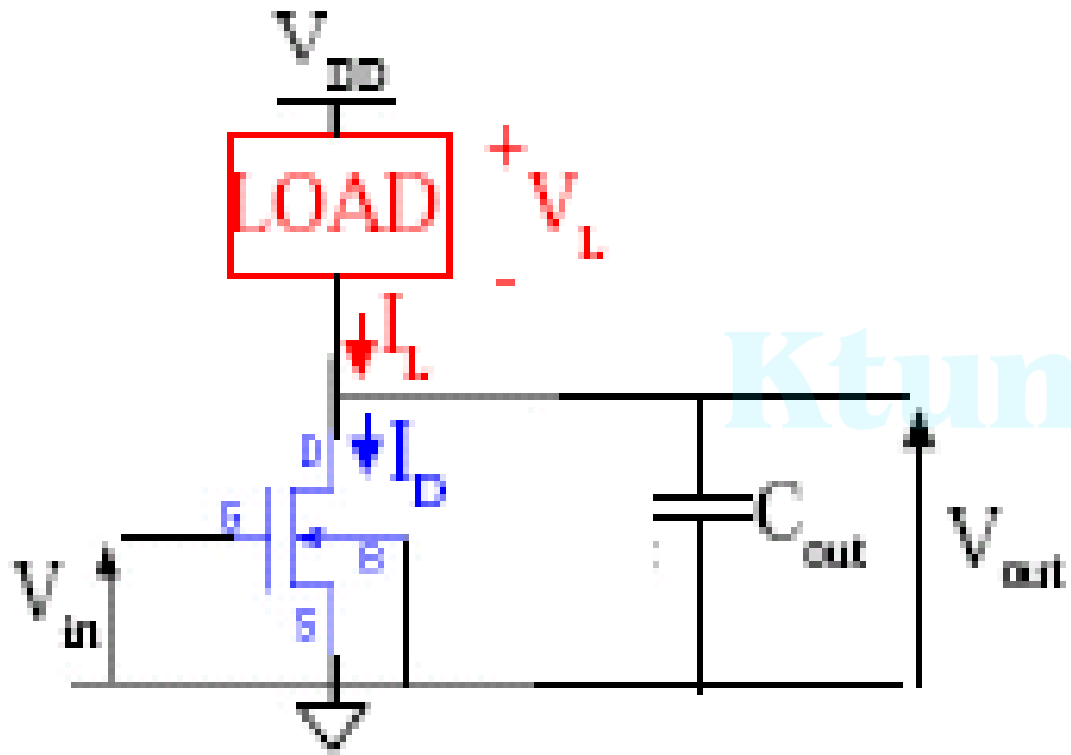
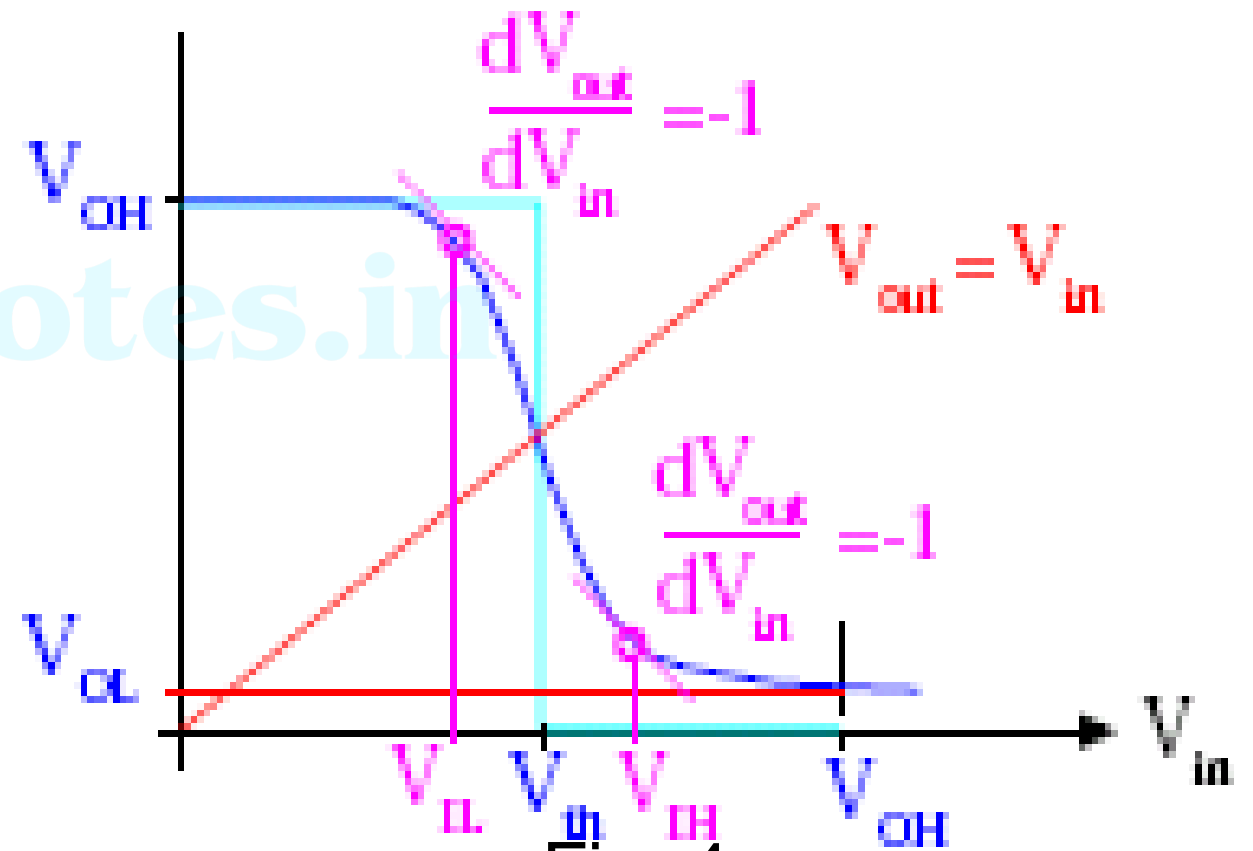

Fig. 3
Fig. 4
- Figure 3 shows the generalized circuit structure of an nMOS inverter. The input voltage of the inverter circuit is also the gate-to-source voltage of the nMOS transistor ( $V_{in} = V_{GS}$ ), while the output voltage of the circuit is equal to the drain-to-source voltage ( $V_{out} = V_{DS}$ ).
- The output terminal of the inverter shown in Fig.3 is connected to the input of another MOS inverter.
- $I_D(V_{in}, V_{out}) = I_L(V_L)$  ..... (1)
- The voltage transfer characteristic describing  $V$  as a function of  $V_{in}$  under DC conditions can then be found by analytically solving (1) for various input voltage values.
- The typical VTC of a realistic nMOS inverter is shown in Fig. 4.